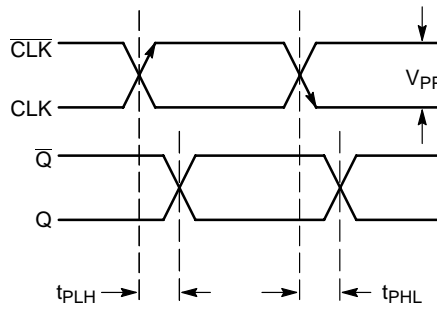

Figure 4. AC Reference Measurement
20. See Figure 4. $t_{SKEW} = |t_{PLH} - t_{PHL}|$ for a nominal 50% Differential Clock Input Waveform.